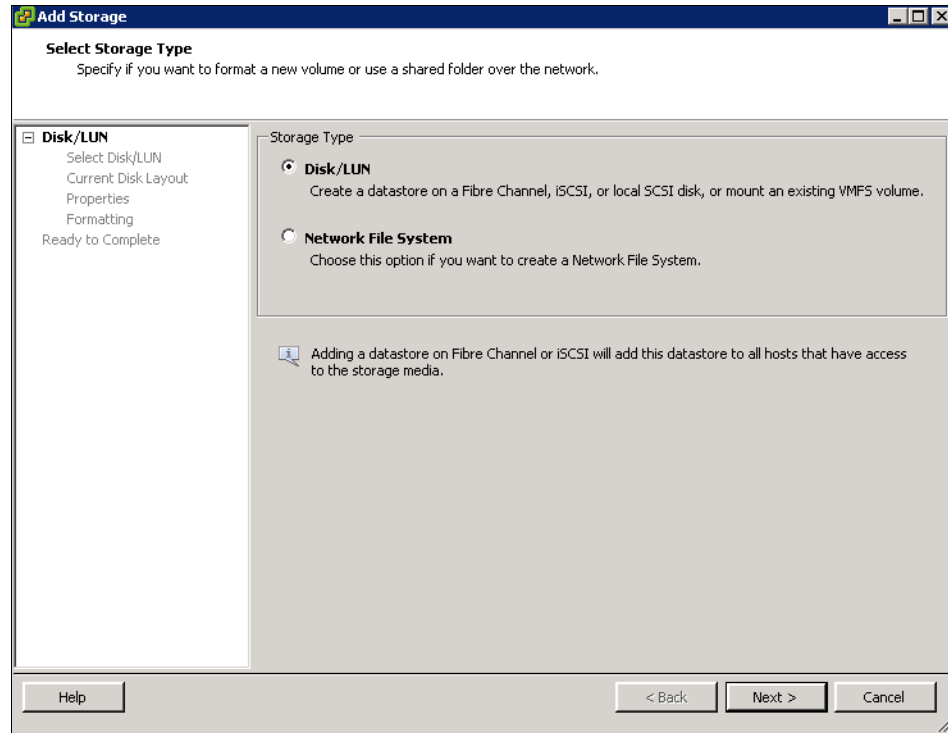

Figure 12-52 Select Disk/LUN menu
7. The Add Storage wizard opens (Figure 12-52). Select **Disk/LUN** and click **Next**.